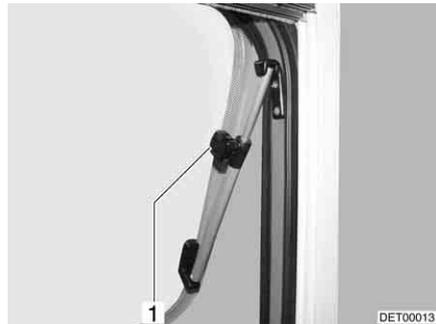

Fig. 75 Skylight with rotary hinges, open
- Open the skylight until the required position has been reached and use knurled knob (Fig. 75,1) to secure in position.
- Turn knurled knob (Fig. 75,1) until the latch is released.